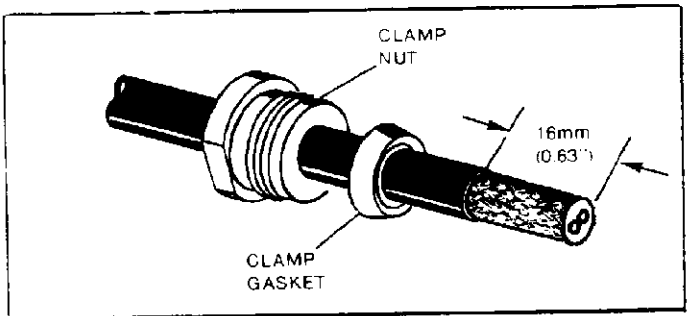

Figure 2
- (b) Slide clamp nut, then clamp gasket over cable jacket. (Figure 2)